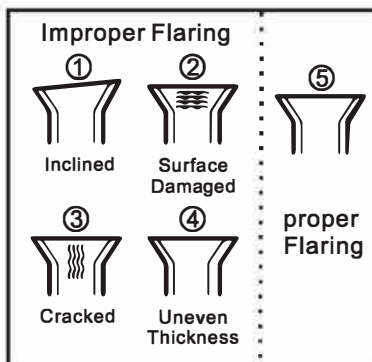

Fig. C.6.5
- 3 Flare the pipes. Insert the pipe outlet into the copper nut before flaring the pipe. Ensure that the hole is flat with sound surface and even thickness. (Fig. C.6.5)